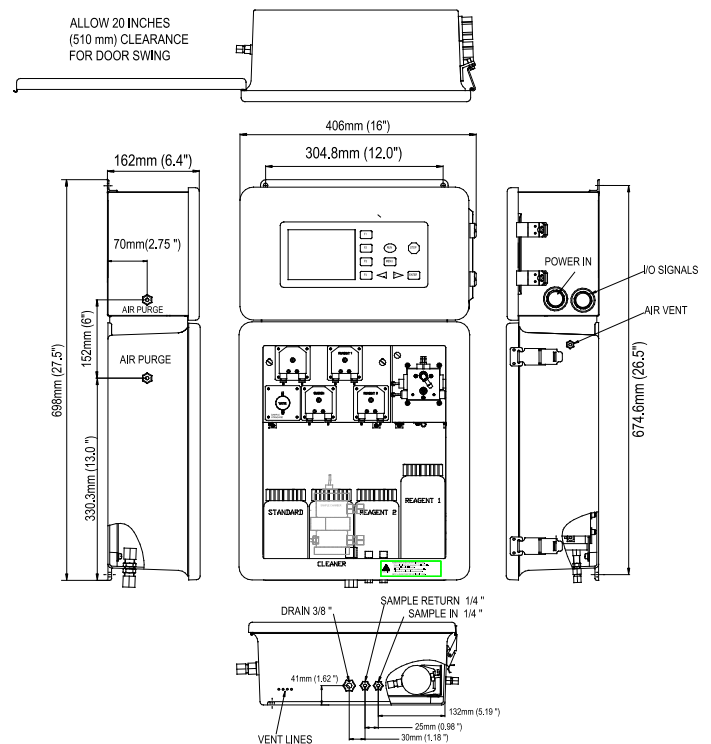
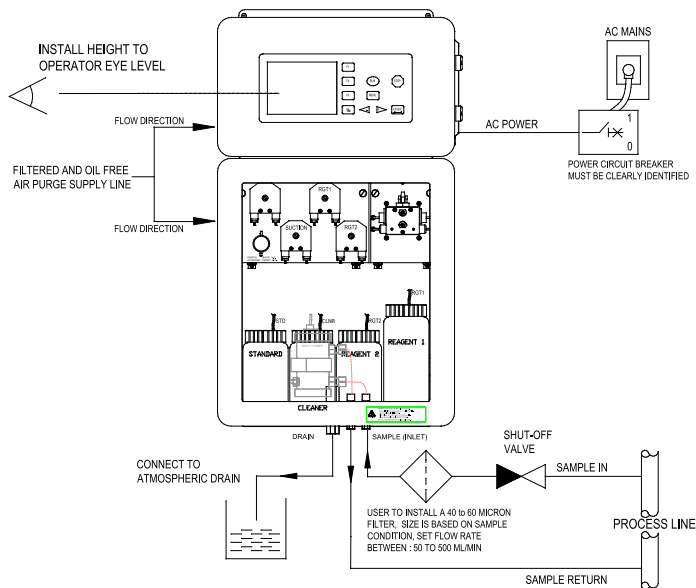

Figure 3. Mounting dimensions
Figure 4. Typical external plumbing connections
- Refer to Figure 3 and Figure 4 for dimensions (in mm and inches).
- Make sure that the wall that you choose can support the weight of the instrument (approximately 20 kg or 44 lbs.) (See Figure 3).